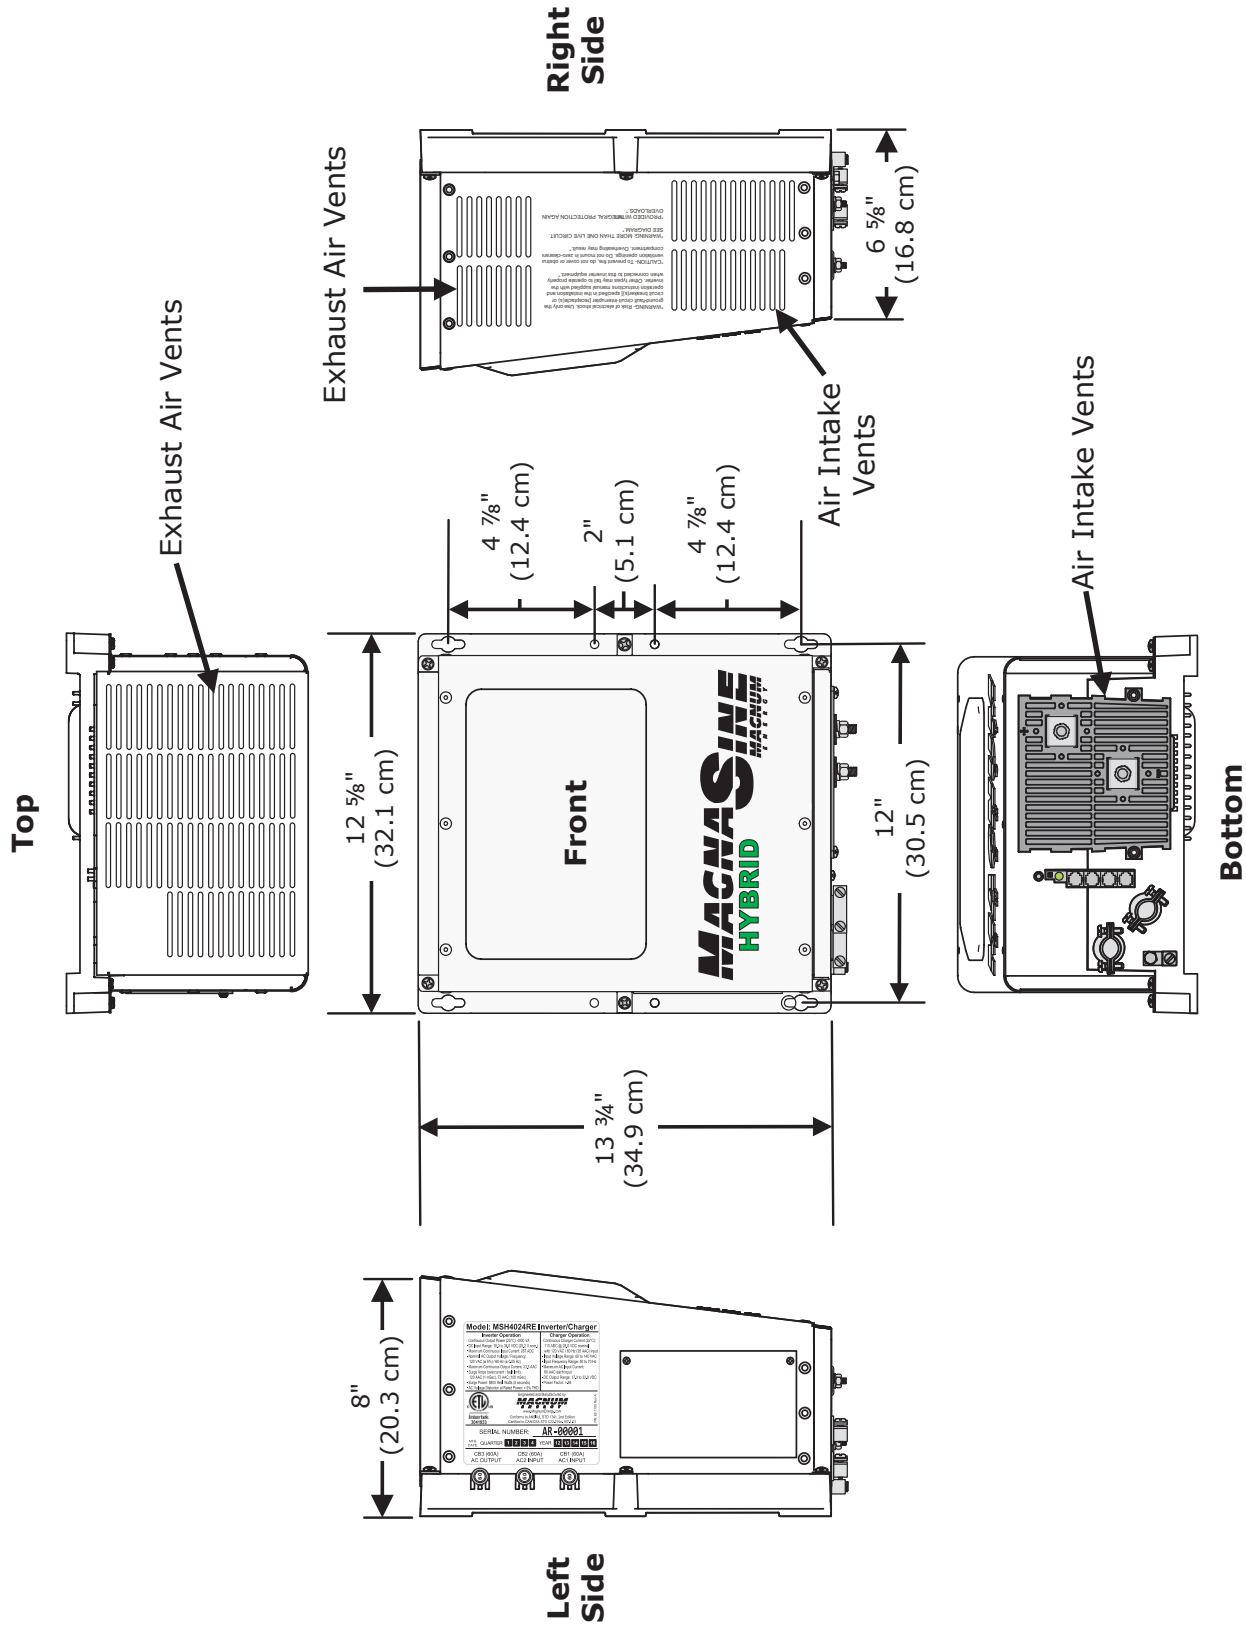

Figure 2-3, MSH4024RE Dimensions and Side Reference
- 9 **Intake Air Vents** – ventilation openings to pull in air to help keep the inverter cool for peak performance. The intake air vents are located on the front side and at the front on the right side; see Figure 2-3 for the locations of the air vents.
- 13 **Exhaust Air Vents** – ventilation openings that allow heated air to be removed by the internal cooling fan. The exhaust air vents are located on the back side and at the rear on the right side; see Figure 2-3 for the location of the air vents.
Accessible – Do not block access to the inverter’s remote control and accessory ports, as well as the inverter’s controls and status indicator. Allow enough room to access the AC and DC wiring terminals and connections, as they will need to be checked and tightened periodically. See Figure 2-3 for the MSH-RE Series inverter/charger’s dimensions.
After determining the mounting position, refer to the physical dimensions as shown in Figure 2-3, or use the base of the inverter as a template to mark your mounting screw locations. After marking the mounting screw locations, mount the unit with appropriate mounting hardware.